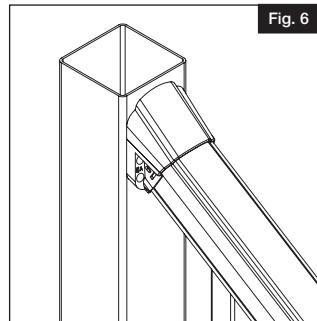

Fig. 6
- Prior to installing round aluminum balusters, insert the provided foam strips into the top of the top rail and bottom of the bottom rails (sides opposite of routed holes). Cut to rail length. Then, remove 1" of the release paper from each end to expose adhesive (Fig. 6). Press fit the foam strips to rails (Fig. 7). DO NOT remove the release paper from entire strip – Only remove 1" from each end. For top rails 8' and longer in length, the strip will adhere to the aluminum stiffener instead of the top rail itself.
Slide the stair brackets onto the rails (Fig. 6) and place rail section between your posts (Fig. 7).